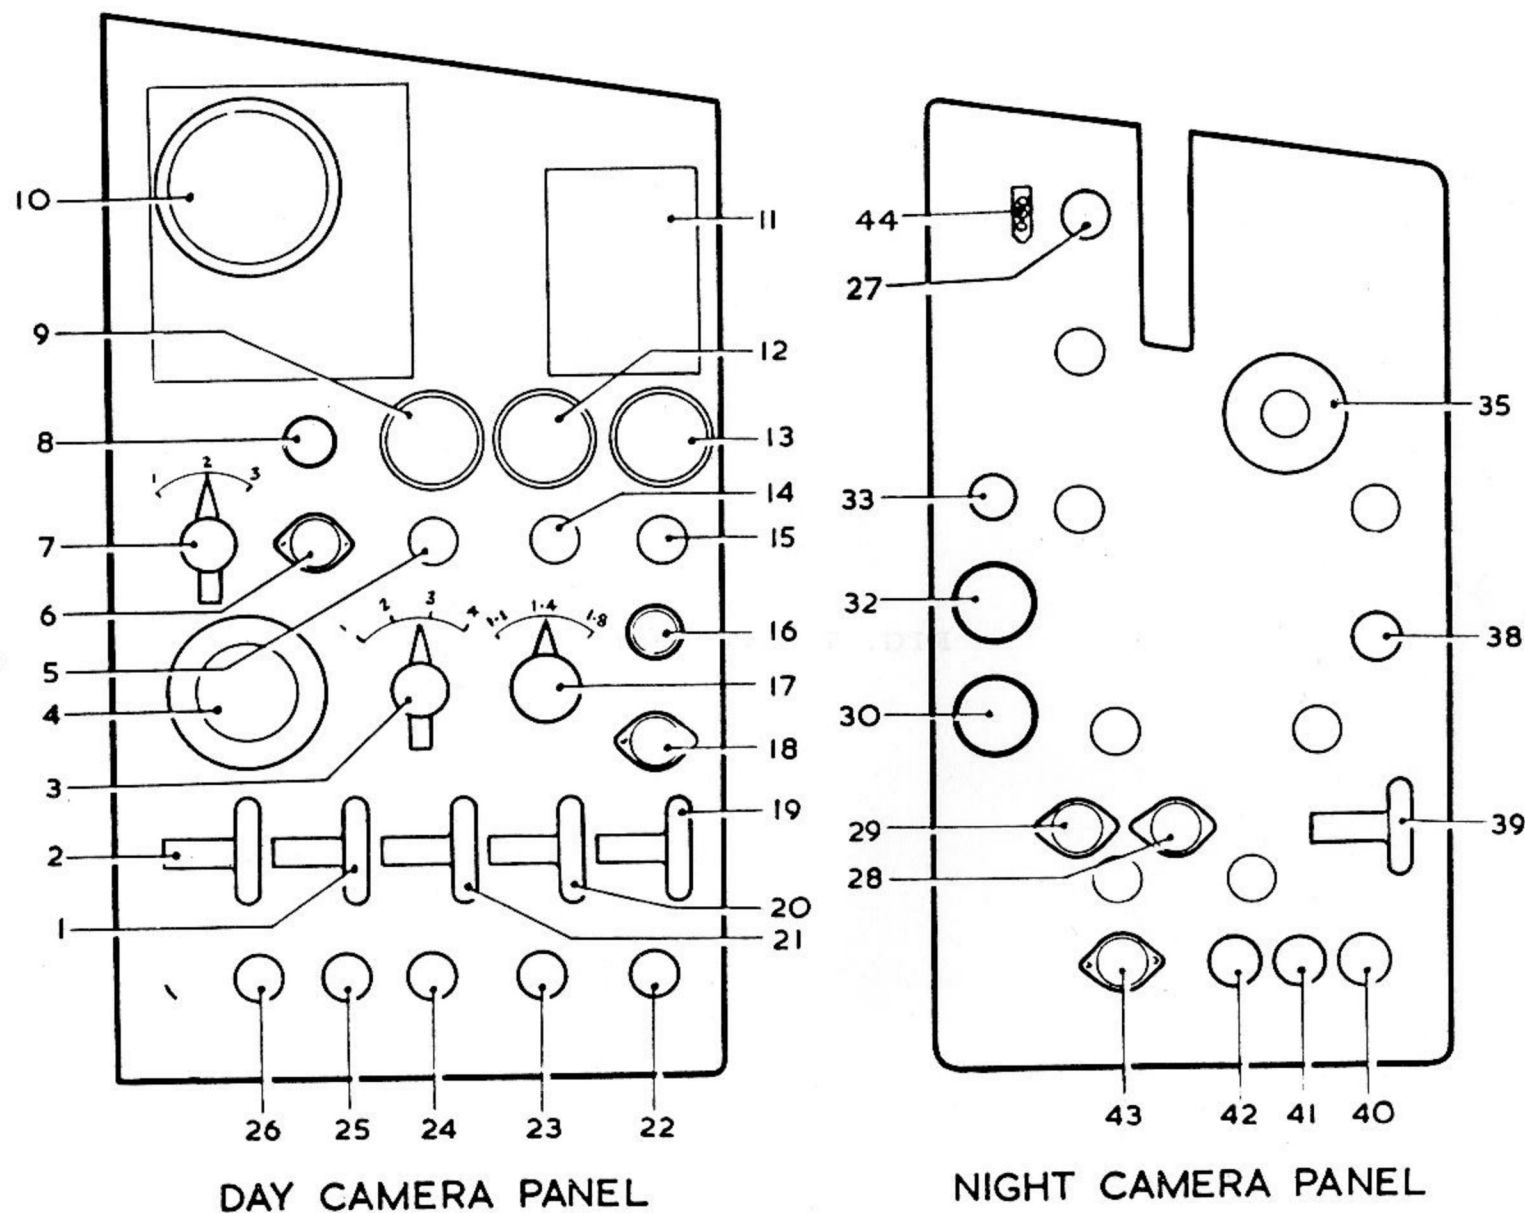

Fig. 2 Camera console
- 61 Night camera panel - for details see Fig. 2.
- 82 FLASHES GONE magnetic indicators (5).
- 86 Day camera panel (details see fig. 2).
## KEY TO FIG. 2